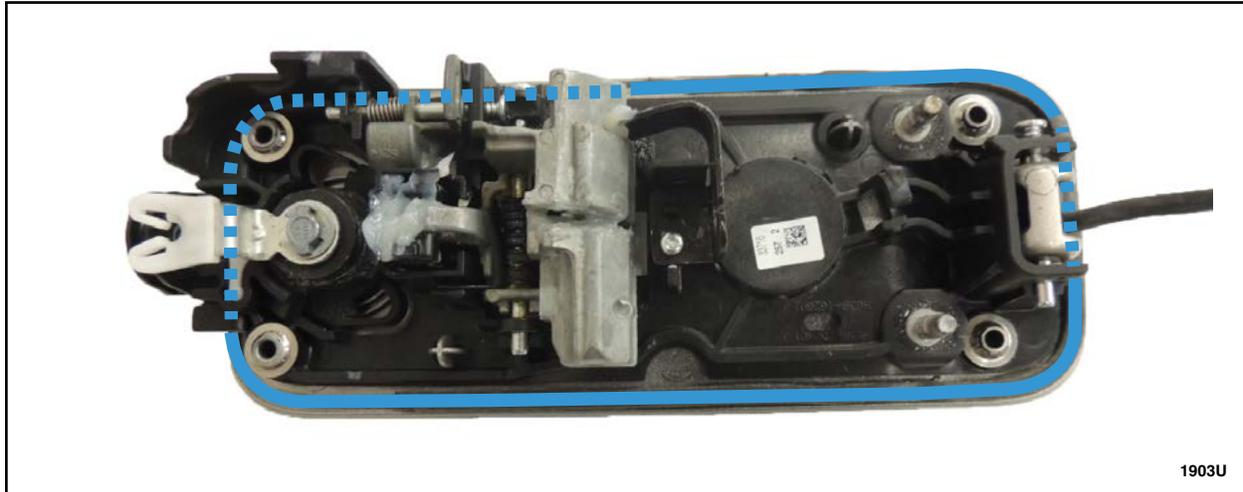

FIGURE 10
16. Thoroughly remove the existing Foam Tape E and the TA-30 silicone sealant from the latch side area of the front door exterior handle. Using a clean shop cloth and isopropyl alcohol, clean the highlighted mating surface area of the exterior front door handle. See Figure 10.